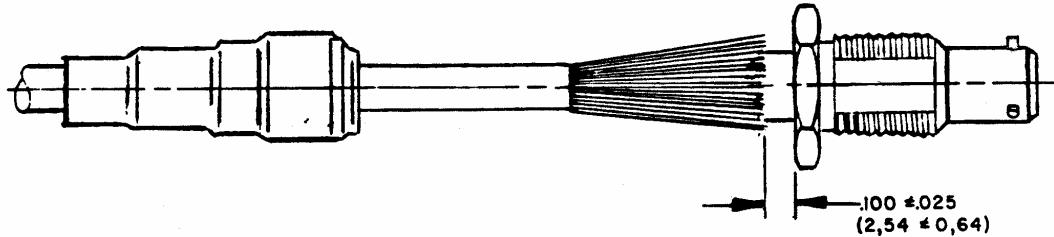

Figure 28
- 5.3.2.2 Brush cable braid forward over rear barrel section of triaxial connector. Trim braid strands to yield spacing shown in Figure 28.